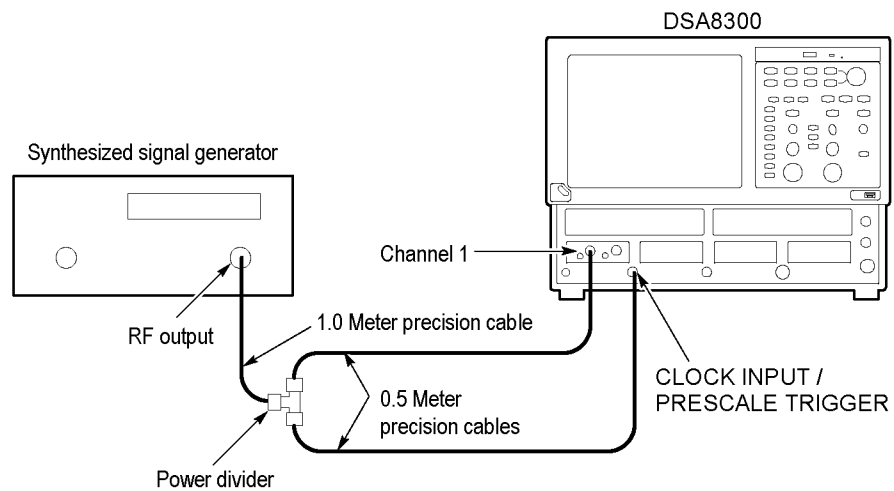

Figure 12: External Clock/Prescale trigger delay jitter test setup
2. Connect the test equipment (See Figure 12.)